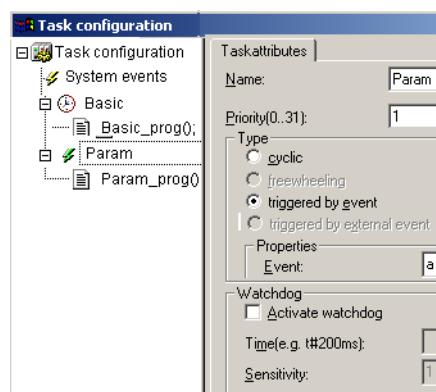

Figure 32: Creating an event controlled task
- ▶ Create a task of the “event controlled type” with the name “Param” in accordance with Figure 32.